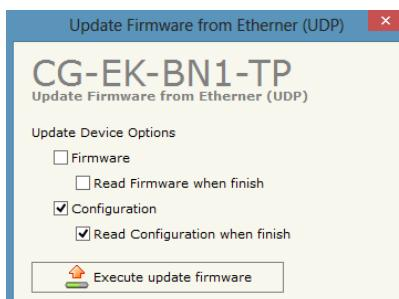

Figure 13 – Download options form
- Select the desired options (see Figure 13 – Download options form): firmware update, configuration update or both